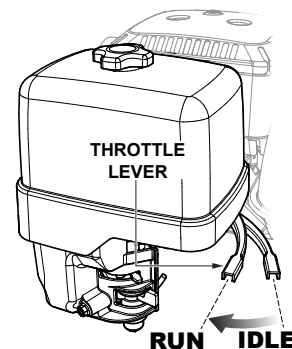

Figure 22. Throttle Lever (Run)
- To begin mixing, place the throttle lever (Figure 22) in the "RUN" position.